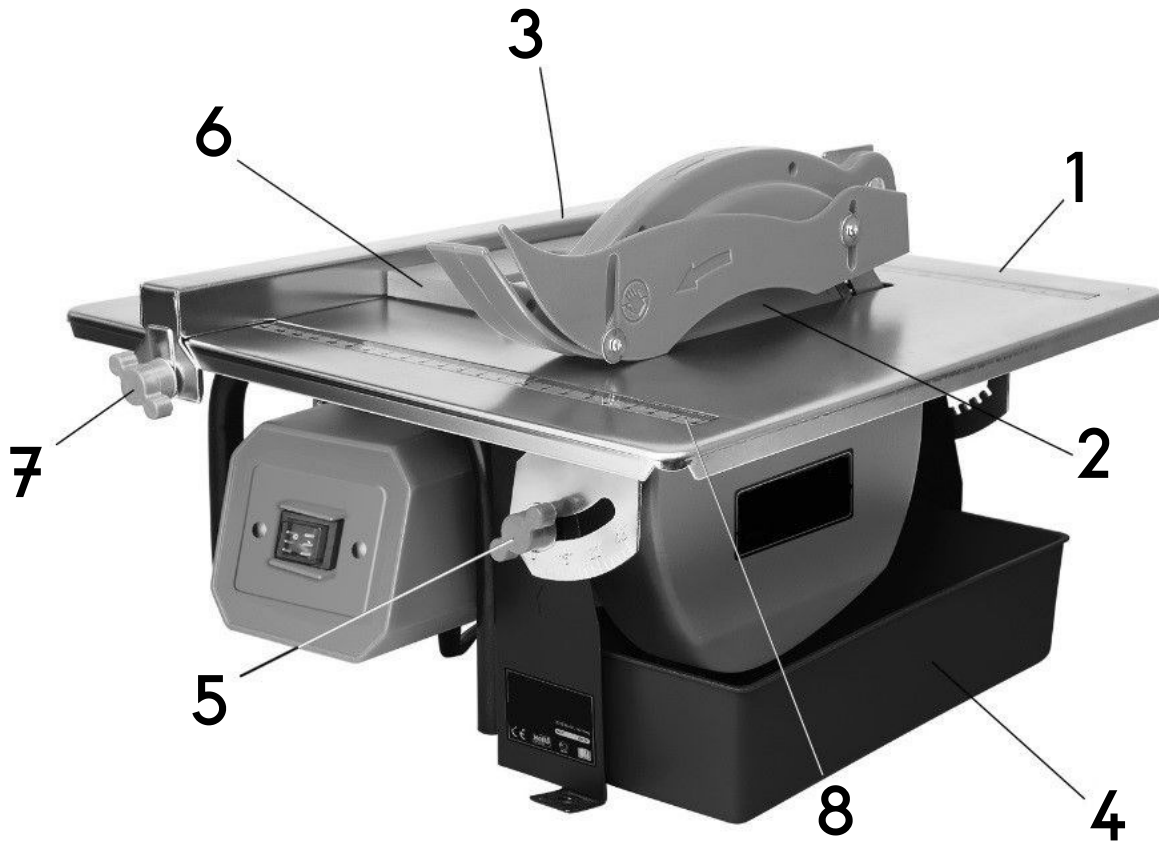

Figure 1
Operation (fig. 1)
Full length adjustable fence (fig. 1)
Mitre guide (fig. 1)
- Remove the water tray (**4, fig. 1**) from the machine.